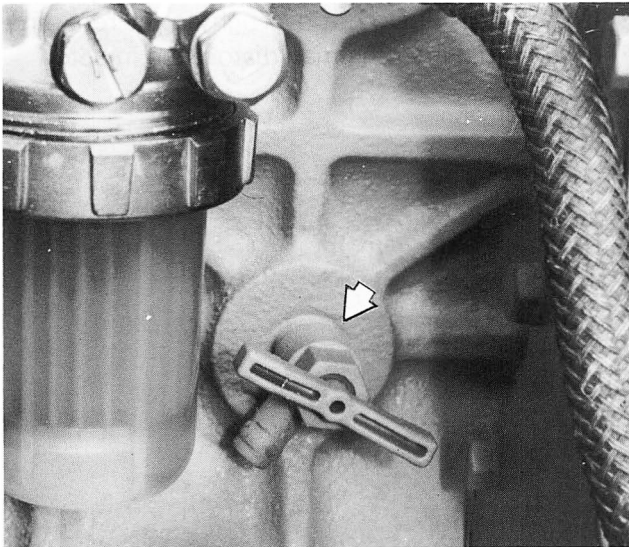

Figure 49 – Engine Block Drain Valve
1. Remove the radiator cap and open the drain valve at both the radiator and the engine block. The radiator drain valve is located on the bottom right side of the radiator, Figure 48. The engine block drain valve is located on the right side of the engine. See Figure 49.